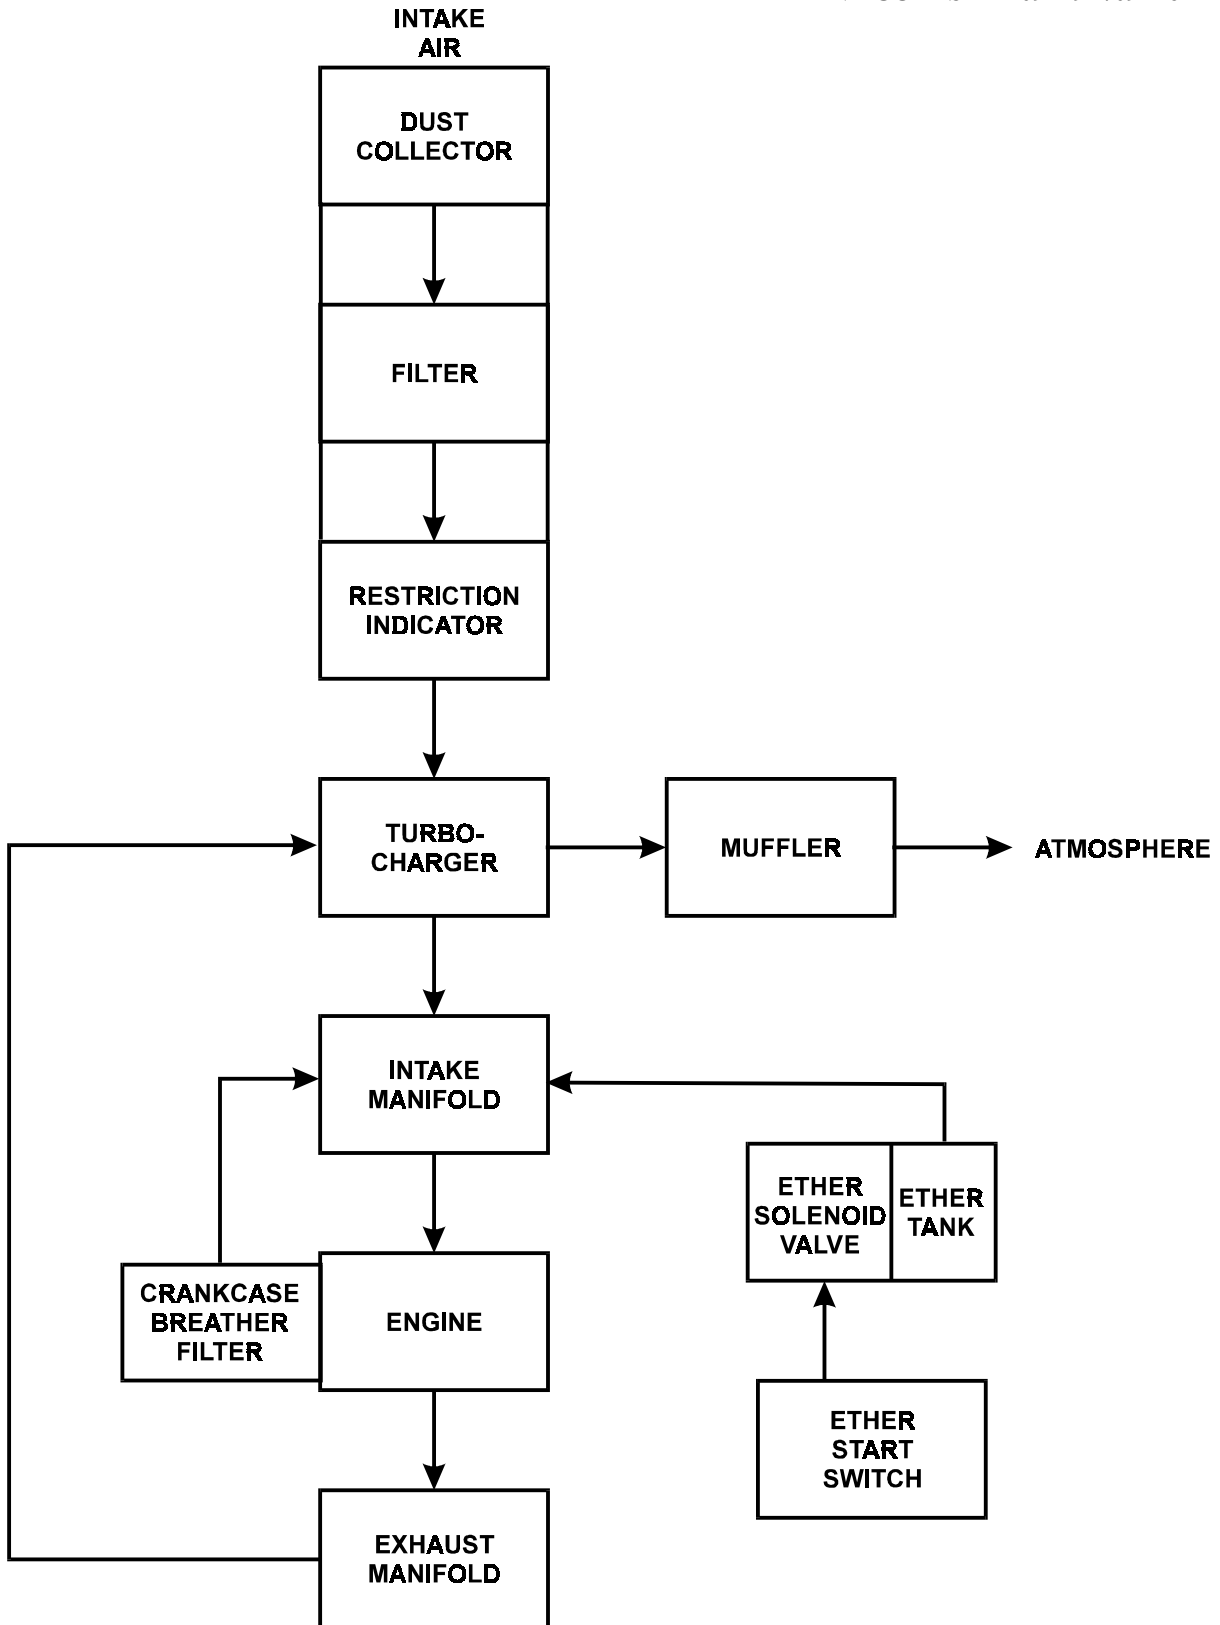

FIGURE 1-26. ENGINE AIR INTAKE AND EXHAUST SYSTEM FLOW DIAGRAM
1.16.10.1 The Engine Air Intake and Exhaust System (Figure 1-26) consists of an air cleaner assembly, intake manifold, ether supply tank, ether solenoid valve, ETHER START switch, exhaust manifold, turbocharger, muffler, and crankcase breather filter. The air cleaner assembly includes a dust collector, filter element, restriction indicator, and dust evacuator valve.